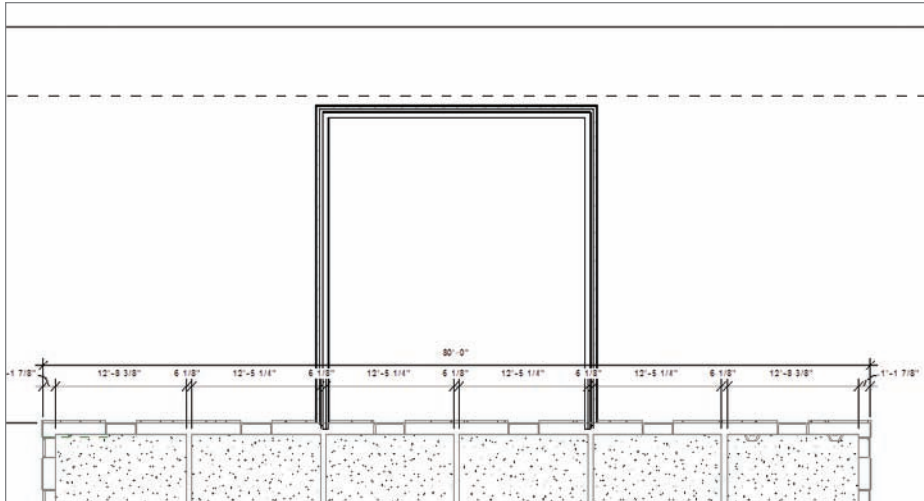

FIGURE 21.10 Drawing a small box addition
2. Turn on the Crop region and drag the north region up about 20 or 30 feet. Do the same for the dependent crop region. It should look similar to Figure 21.10.
6. Pick the start point, as shown in Figure 21.10.
8. Draw another horizontal wall centered on the partition to the right, as shown in Figure 21.10.